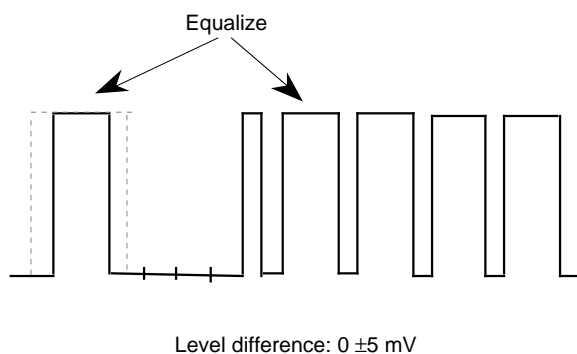

Fig. 5-14
3. As shown in Fig. 5-14, adjust the BIAS REF data so that the all white peak level and BIAS REF pulse level of the signal become equal.